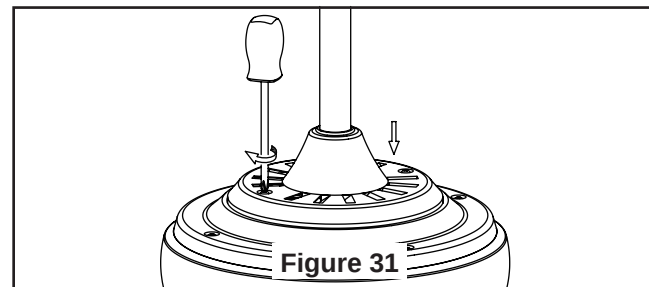

Figure 31
- ☐ 3. Tight the two screws from the motor coupling cover. (Figure 31)